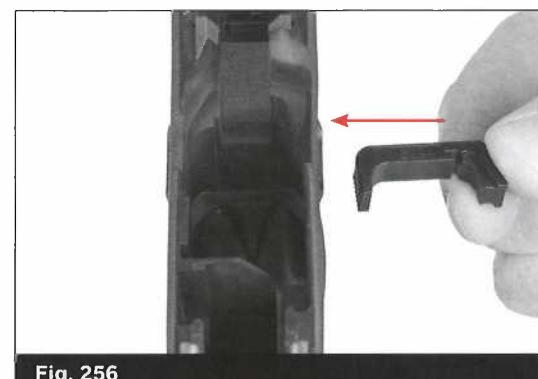
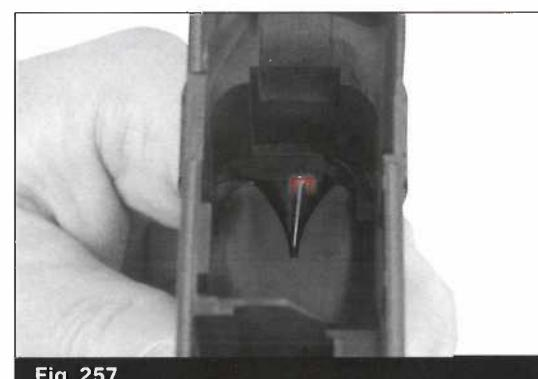

Fig. 256
Fig. 257
- Insert the magazine catch body (Fig. 256) and then using the pliers insert the magazine catch spring in the provided hole and push this down with the tip of the screwdriver. (Fig. 257) Make sure to seat it completely.